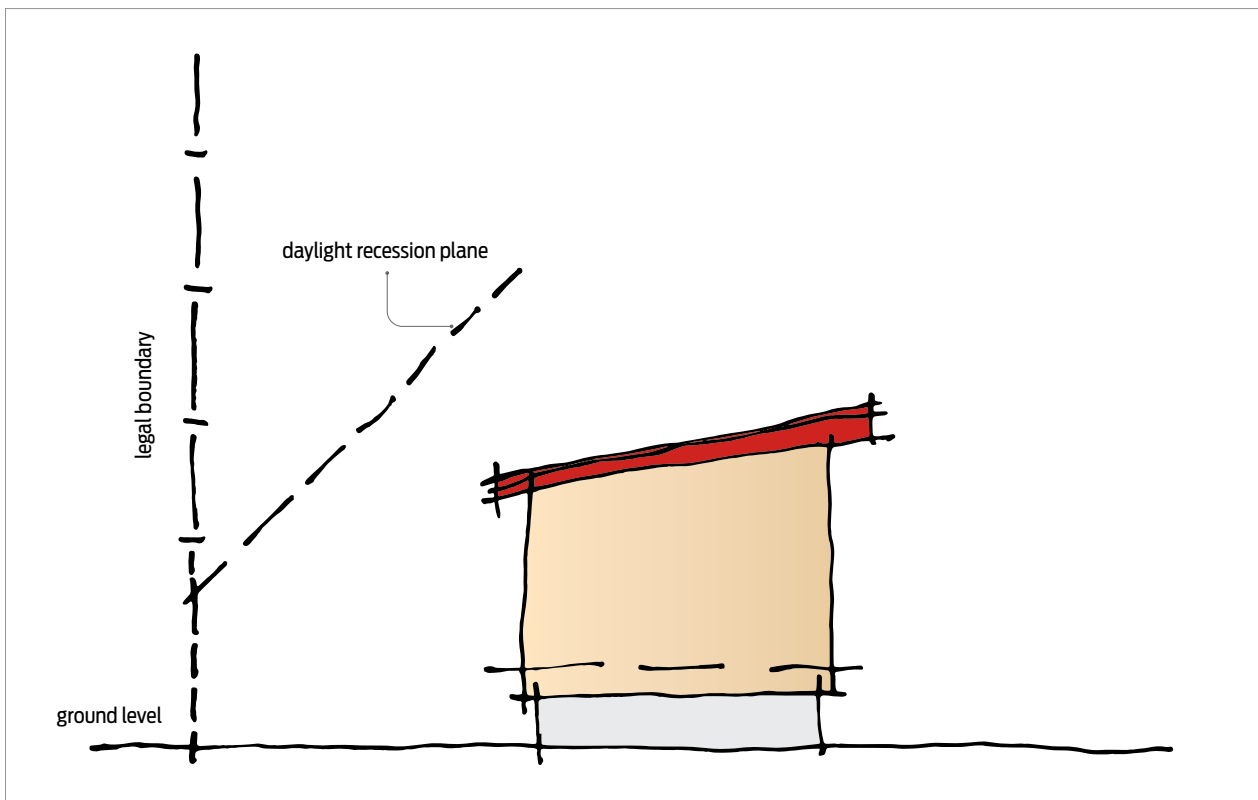

Figure 3. No part of the sleepout can penetrate the daylight recession plane.
5.1.2 District plans limit how close a building can be to a boundary (a yard or set-back) and its maximum height relative to the boundary (within a recession plane – Figure 3).